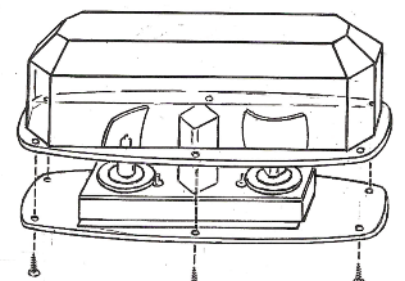

Fig. 2
**WARNING:** A serious injury can result if the bulb is touched when hot. Always allow five (5) minutes for the bulb to cool before removing. Always wear gloves and eye protection when removing the bulb because Halogen bulbs are pressurized and if broken, glass can be projected.
6. Remove the six screws located at the bottom of the light (one in each corner and one in the middle each side) holding the lens to the lights base and remove lens. (See Fig. 2)